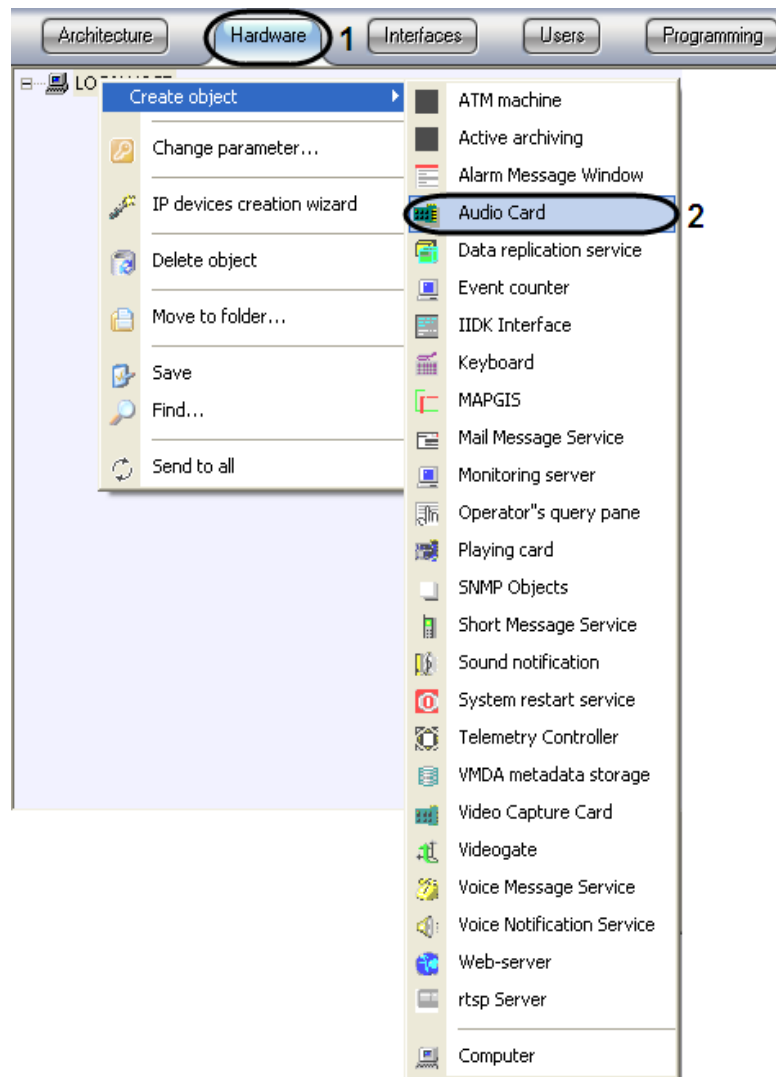

Figure 3.1-12 Context menu of the Computer object
1. Go to the **Hardware** tab in the **System settings** dialog box (Figure 3.1-12, 1).
2. Select **Create object** -> **Audio card** in the context menu of the **Computer** object (Figure 3.1-12, 2).